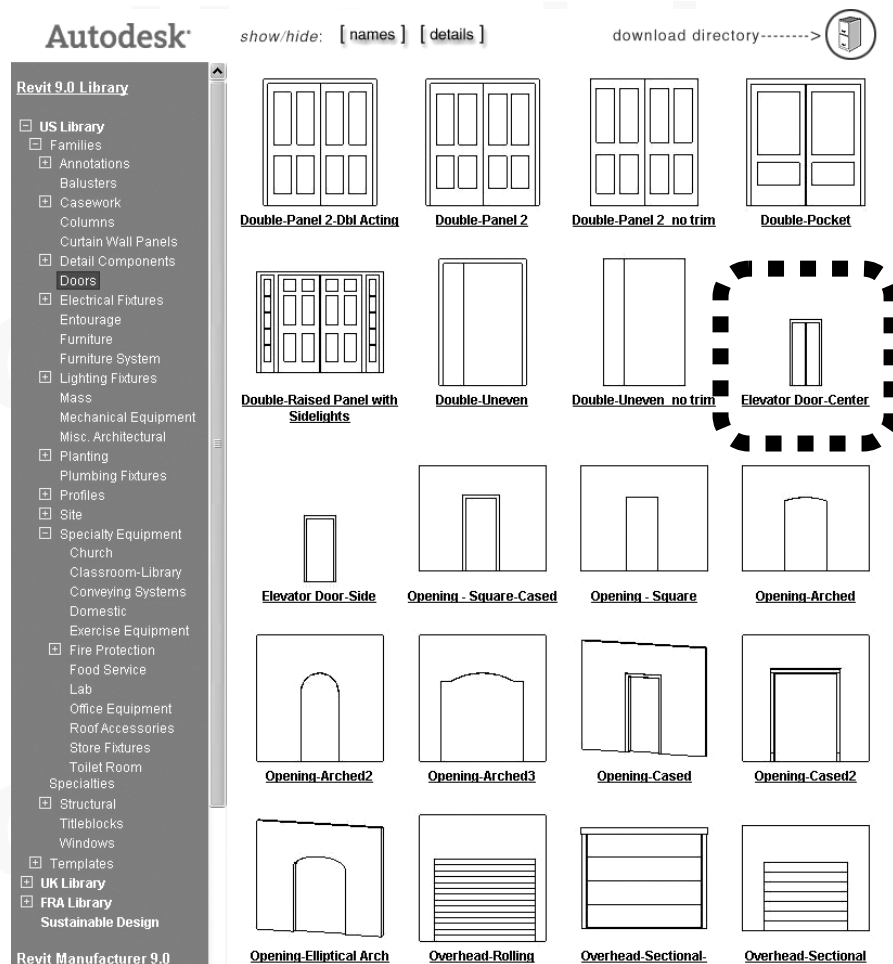

Figure 3-4.7 Elevator door in Revit Web Library
20. Similar to the steps previously covered, load the **Elevator Door – Center** family from the *Web Library* (Figure 3-4.7).